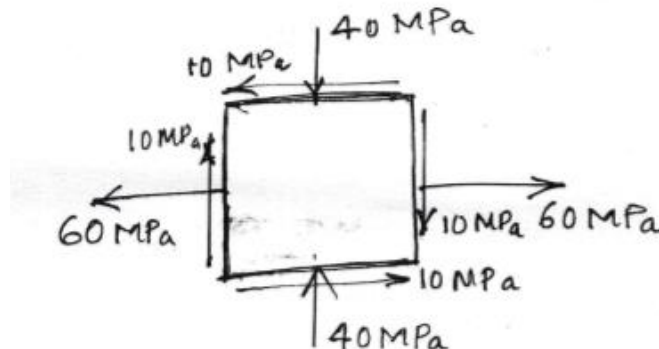

Figure 2
- c) A plane element is subjected to stresses as shown in figure 2. Determine principal stresses, maximum shear stress and their planes. Sketch the planes determined. **08**